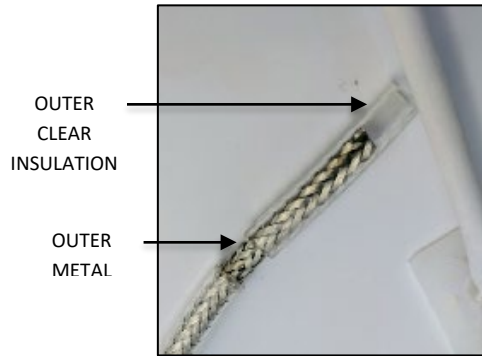
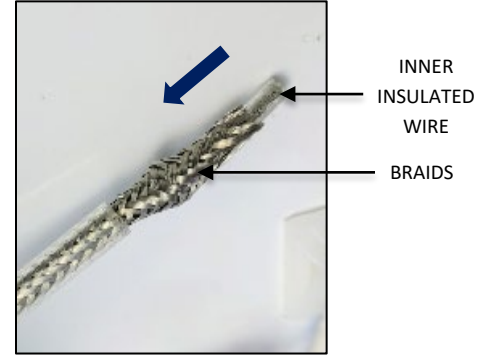

FIG. 33
FIG. 34
1. Strip off 1.00" of outer clear insulation exposing the outer metal braiding as shown in FIG. 33 below. **Be careful not to cut or damage the outer metal braiding.** Gently push braiding down to loosen the individual braids exposing the inner insulated wire as shown in FIG. 34 below.